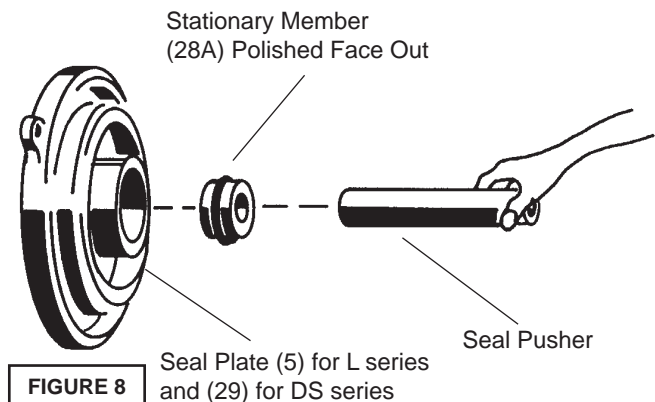
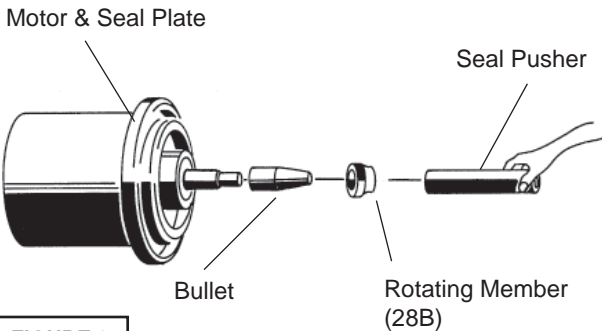

FIGURE 8
FIGURE 9
Inner Seal (DS Units Only) - Clean and oil seal cavities in seal plates (5, 29). Lightly oil (**DO NOT** use grease) outer surface of stationary member (28a). Press stationary member (28a) firmly into inner seal plate (5), using a seal pusher (see parts list - seal tool kit). Nothing but the seal pusher is to come in contact with seal face (see Figure 8).
Make sure the stationary member is in straight. Slide a bullet (see parts list - seal tool kit) over motor shaft. Lightly oil (**DO NOT** use grease) shaft, bullet and inner surface of bellows on rotating member (28b), see Figure 9. With lapped surface of rotating member (28b) facing inward toward stationary member, slide rotating member over bullet and onto shaft, using seal pusher, until lapped faces of (28a) and (28b) are together (see Figure 8).